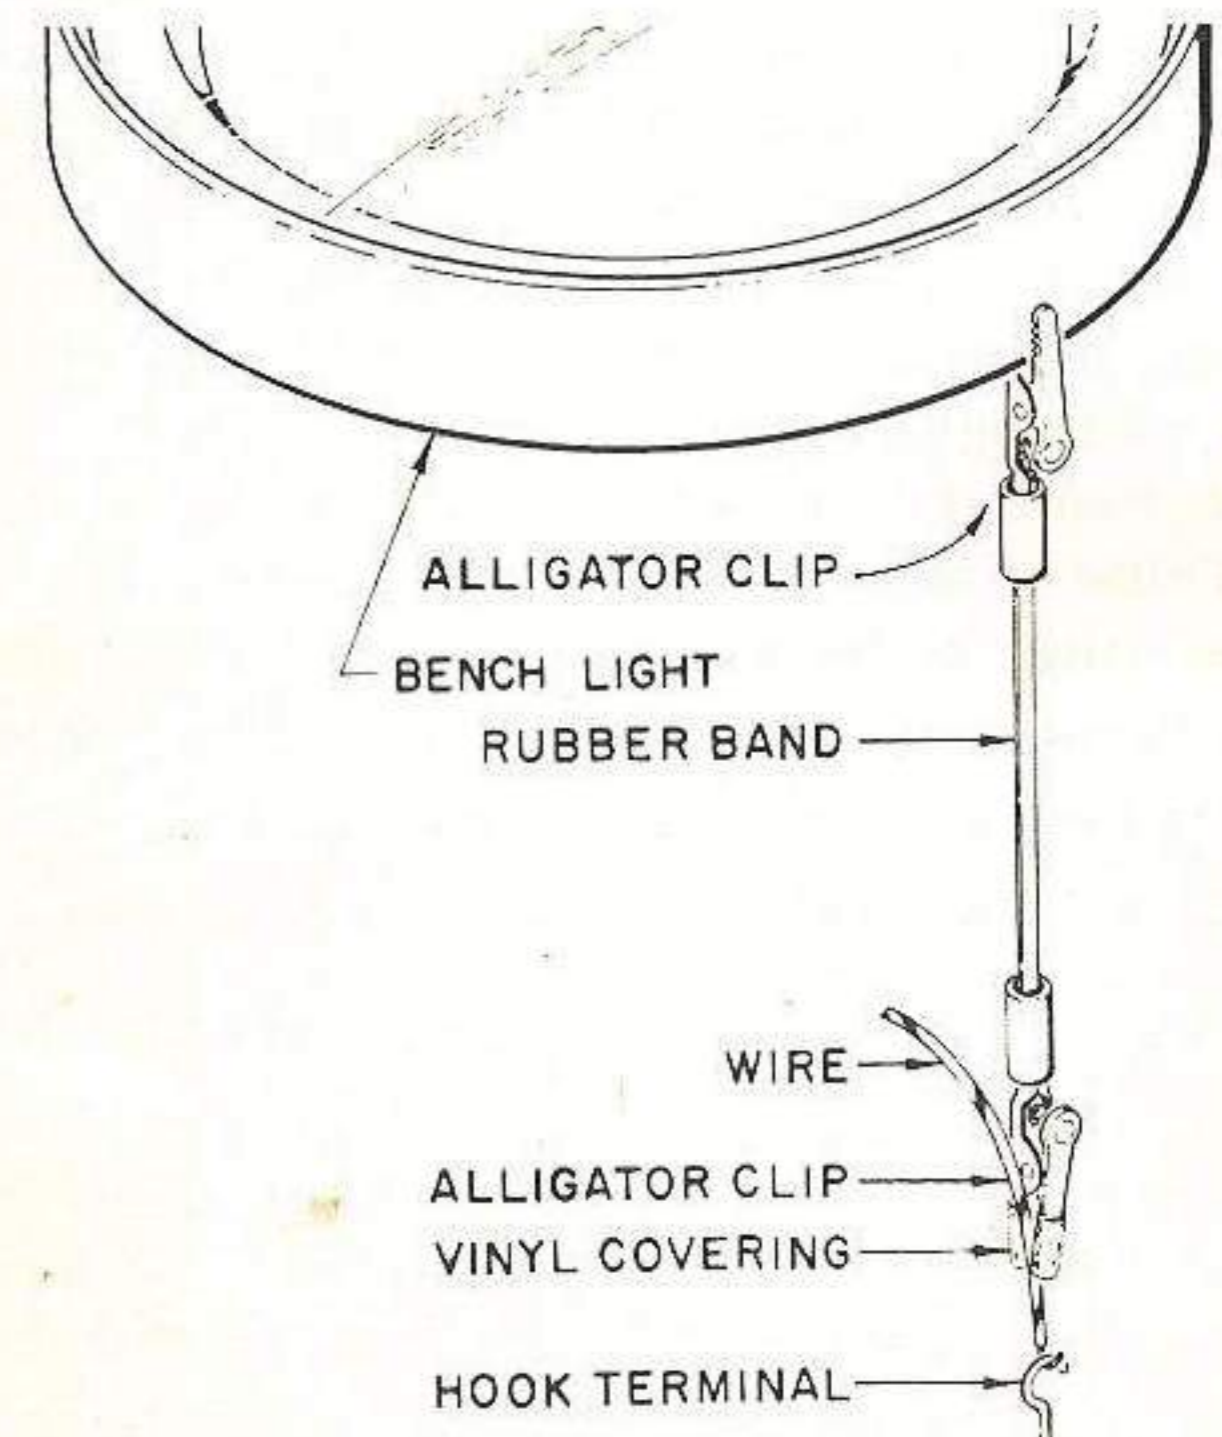

Figure 10. Wire Holding Tool
e. Soldered parts must be held rigidly until solder has set. A wire holding tool is shown in figure 10.